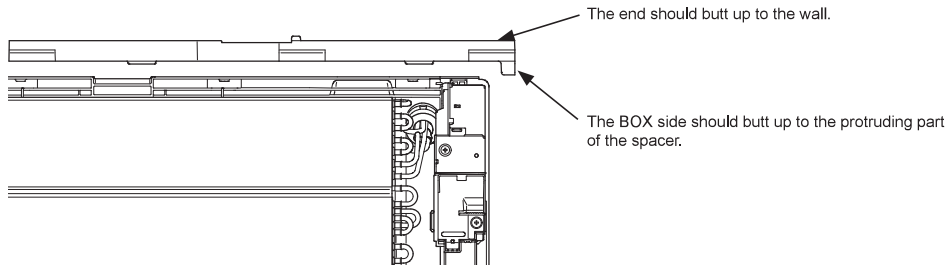

Fig. 4
- 2) Put the spacer on the top surface of the BOX and fix it with tape temporarily. (Fig. 4)